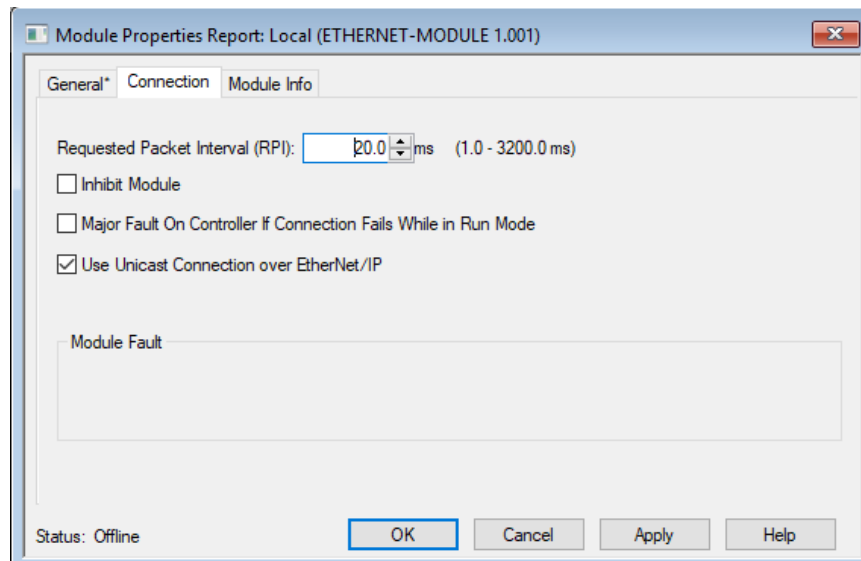

Figure 10 - Setting the RPI
- Clicking the **OK** button creates the new module as well as the necessary controller tags used to interface with the Isaac tester and displays the **Connection** tab of the newly created module as seen in Figure 10 below. Set the **Requested Packet Interval (RPI)** to 20 e.g. 20 milliseconds.
Output tags are sent by the PLC to the Isaac tester every **Request Packet Interval (RPI)** milliseconds as configured above, see Figure 10 - Setting the RPI. Once the Isaac scans i.e. process, the output tags from the PLC, the input tags are sent from the Isaac tester to the PLC.